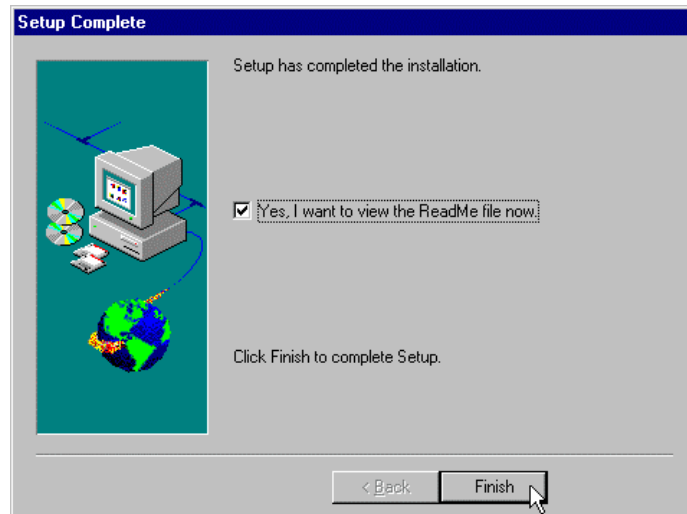

Figure 48 – Setup Complete dialog box
23. The **SETUP COMPLETE** dialog box will appear. Installation of the **GLOBALVISION AGENT** and **IES RESPONDER** has been completed. There is a ReadMe file which contains troubleshooting tips. Click **FINISH** to complete installation and display ReadMe file. See Figure 48.